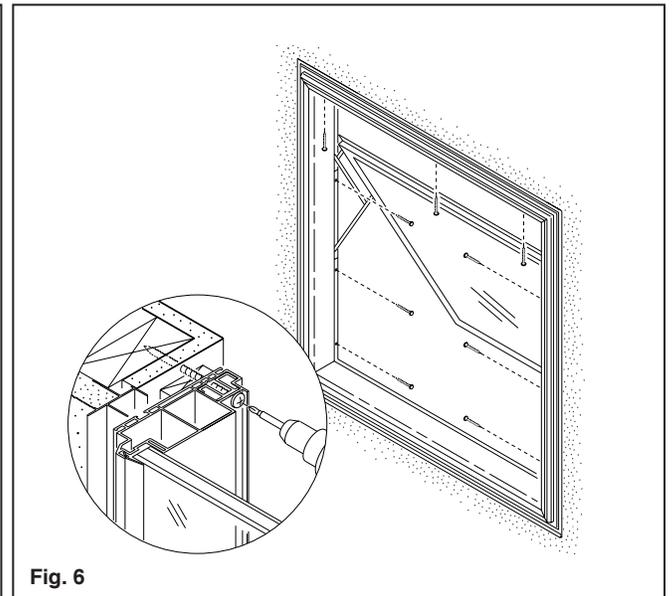

Fig. 6
C. With the sash fully extended, install the #8 x 1 1/2" Phillips sheet metal screws in the interior sash channel at head and jambs. See **Fig. 6**. An installation screw will have to be installed through the